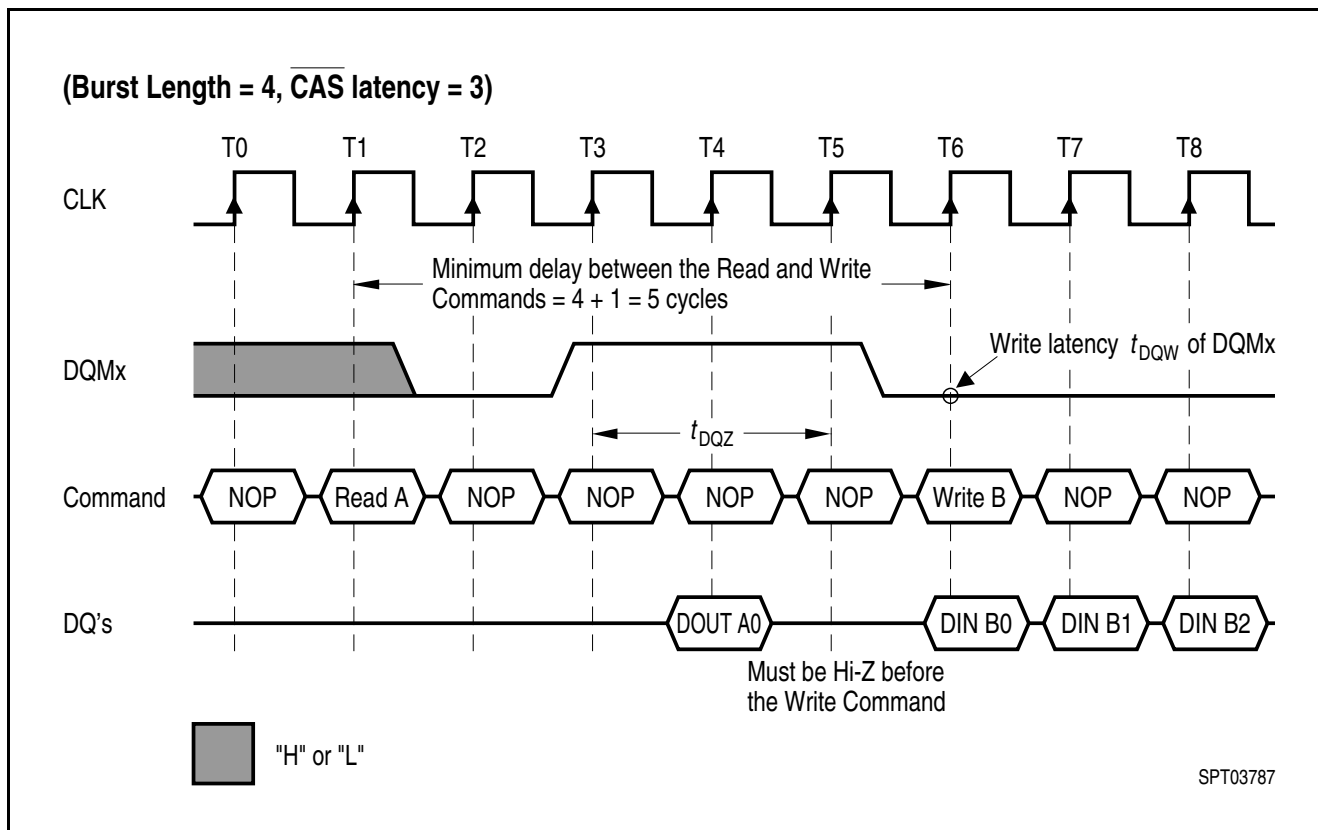

Figure 8 Read to Write Interval
- **Figure 8** Read to Write Interval